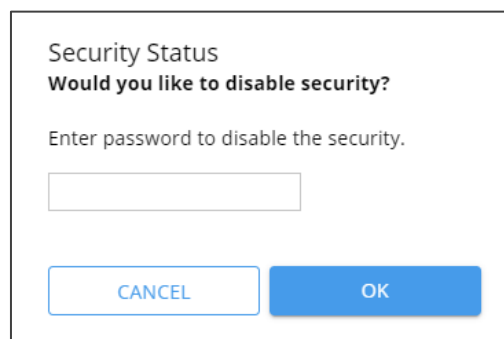

Figure 28: Security Status Message
1. Go to the Security >Device Security (Figure 28).
1. Go to the Security page (Figure 28).
1. In the Navigation pane, click **Security**. The Device Security tab appears (Figure 28).